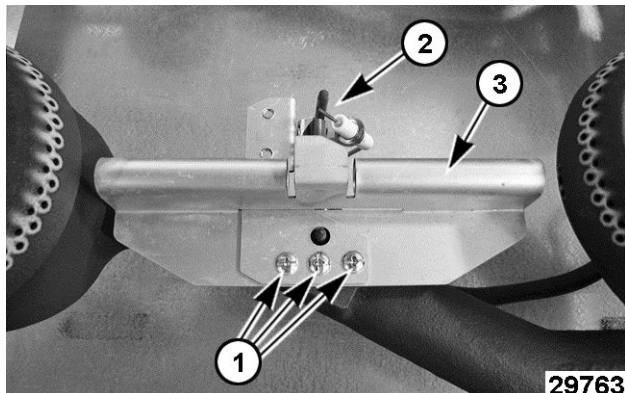

Fig. 71
8. Remove screws (1, Fig. 71) securing pilot assembly (2, Fig. 71) and flash tube (3, Fig. 71) to the top burner assembly. Slide pilot assembly out from mounting slot in flash tube.